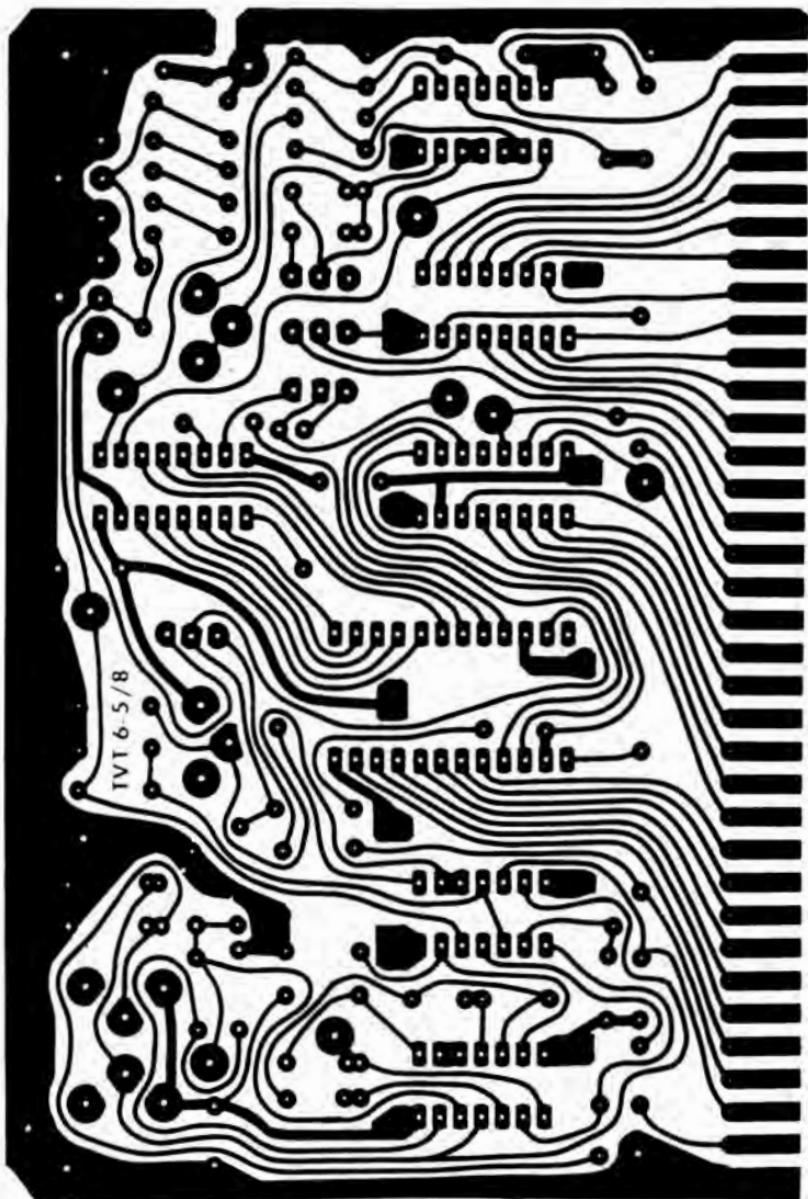
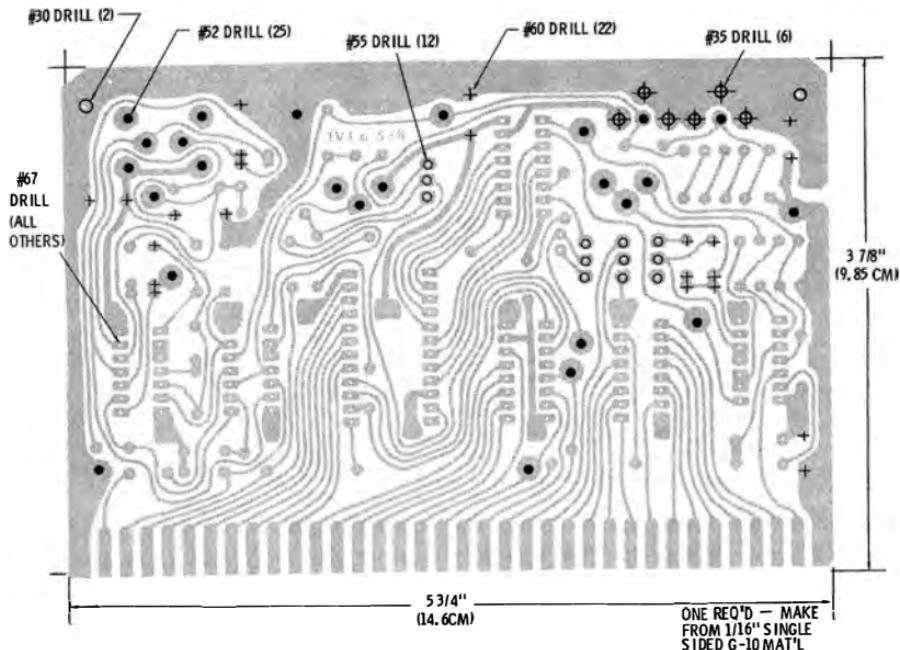
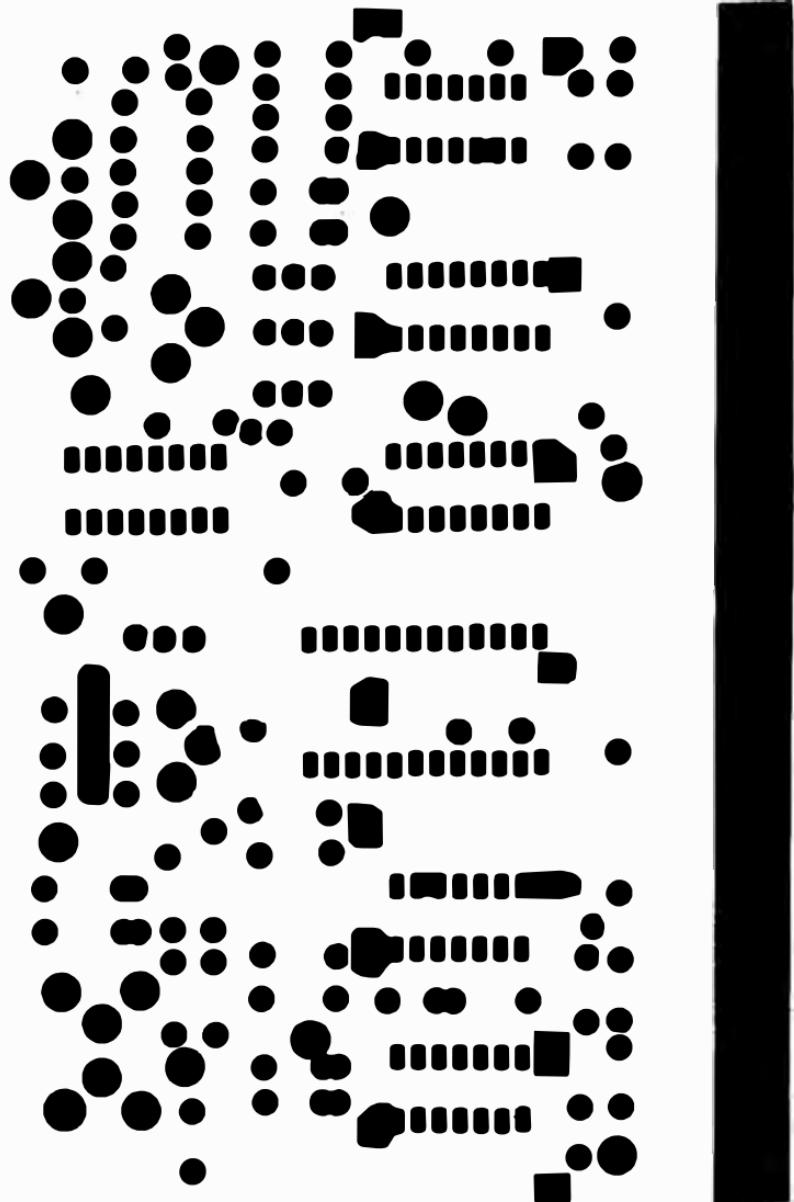

Fig. 4-4. Full size pc board pattern for TTV 6 5/8.
Fig. 4-5. Mechanical and drilling details for TVT 6 5/8.
Fig. 4-6. Solder mask for TVT 6 5/8 (full size).
MISC.	Pc board, etched and drilled (see Figs. 4-5 through 4-7); bus strips for + and ground (see Figs. 4-8 and 4-9); data-to-video IC7 programming modules (see Figs. 4-10 through 4-14); jumper material; pc test point terminals (11); insulated sleeving; solder; 24-pin IC socket (1); 16-pin IC sockets (3); 14-pin IC sockets (3); Optional—36-pin 0.156" single entry pc connector; Optional—output cable, shielded phono jack to miniature phone
A full size printed-circuit layout appears in Fig. 4-4 with its mechanical and drilling details in Fig. 4-5, and solder mask in Fig. 4-6. A single-sided layout with only ten jumpers is used. Components are arranged as shown in Fig. 4-7.